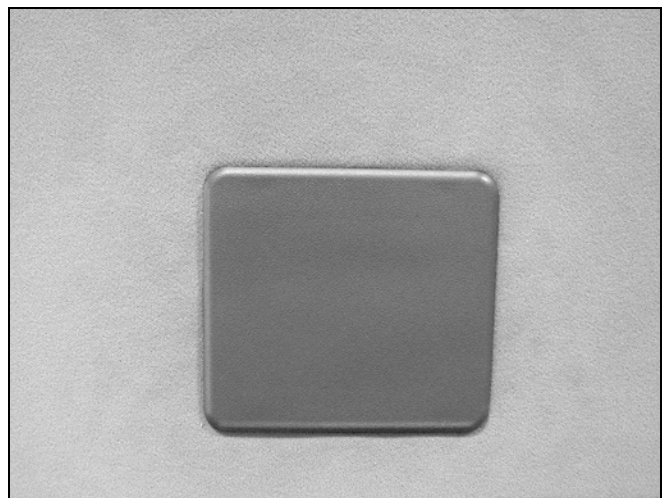

Figure 9
13. Install the cover (Figure 9) into the headliner cutout frame.